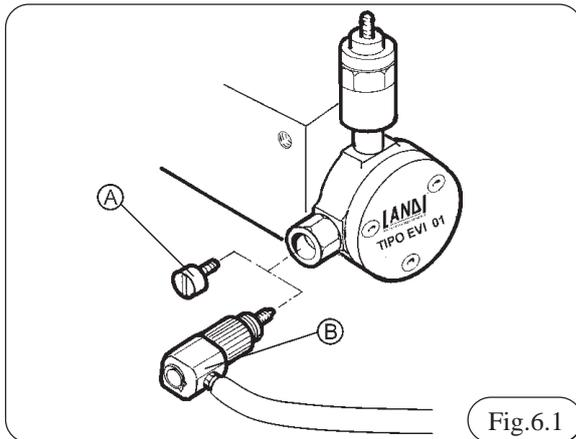

Fig.6.1
1) Connect the system's working pressure diagnostical device as in Fig. 6.1.
Remove the system's working pressure diagnostical device (B) and screw in the plug (A) as in Fig. 6.1.